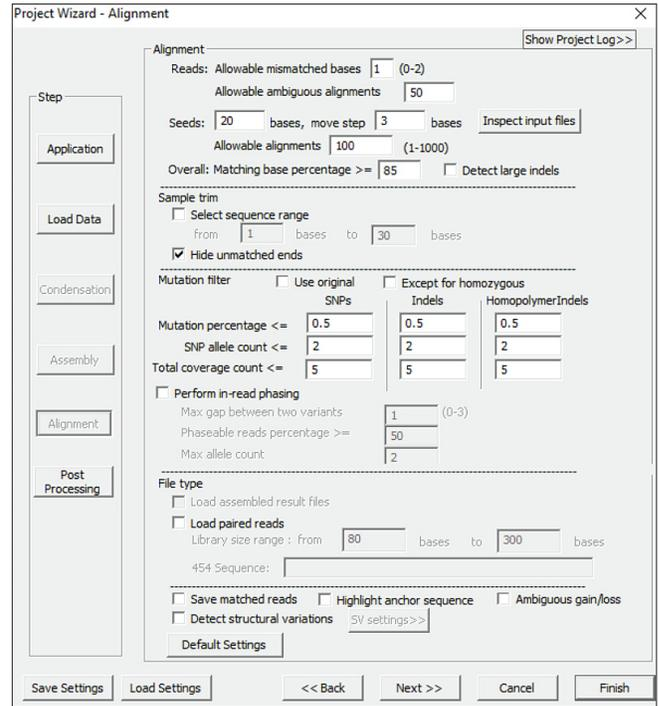

Figure 6. Recommended settings for the Alignment and Mutation filter settings
- 6 Click Alignment and review the loaded settings. Modify if desired. Recommended: Use very loose parameters for Mutation percentage and SNP allele count for the Mutation filter in this alignment step, outlined in Figure 6, and then use stricter ones in the Mutation Report settings. This still results in the output but prevents the need to re-align if new parameters for curation are desired.